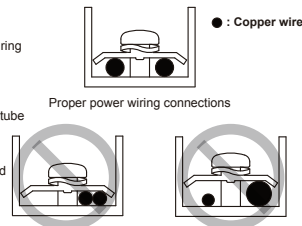

Figure 6.4
- Do not connect two power cords with different diameters to the same power supply terminal (may cause overheating of wires due to loose wiring) (See Figure 6.4).